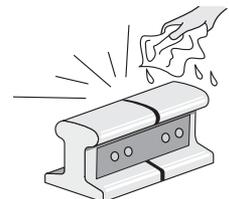

FIGURE 3
1. Clean the rail surface and bond terminals. Scrape off excess dirt and grease, and wipe away any remaining residue using a clean rag saturated with a railroad approved solvent. **See Figure 3.** The cable and rail surface must be dry prior to welding!